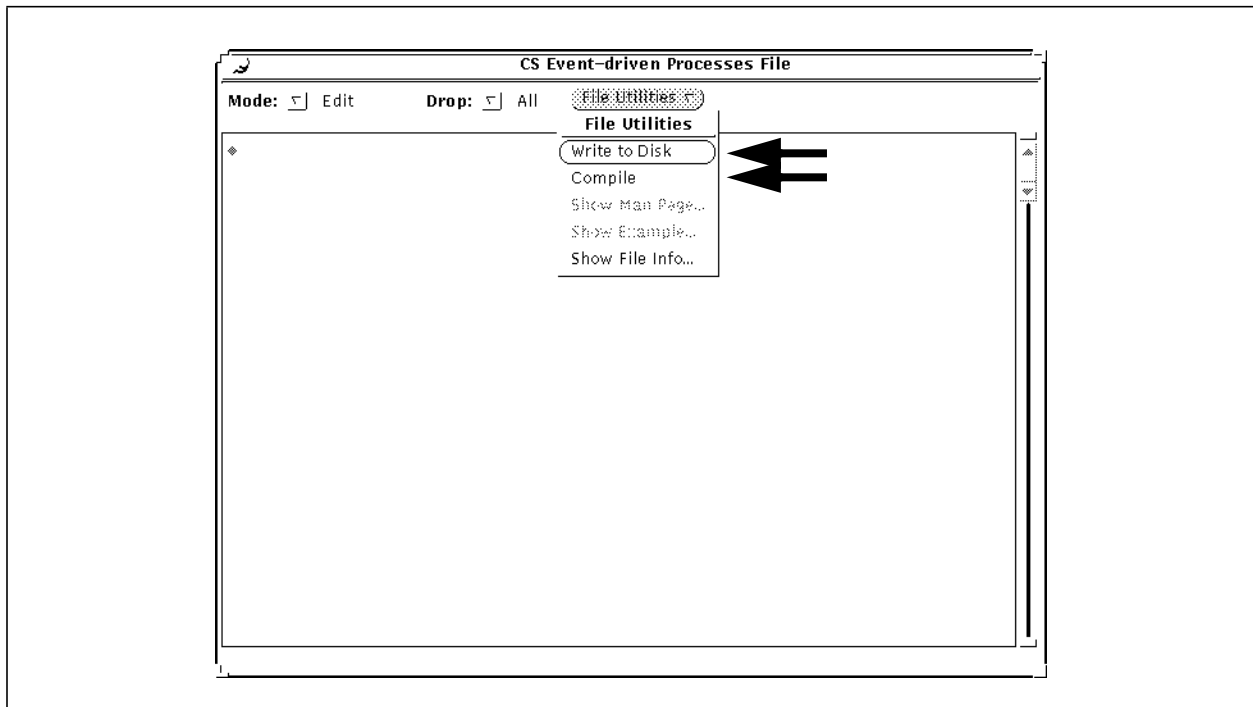

Figure 5-1. CS Event-driven Processes File
A pop-up window will appear (as shown in Figure 5-1).
4. Select the **Write to Disk** from the **File Utilities** pull-down menu as shown in Figure 5-1.